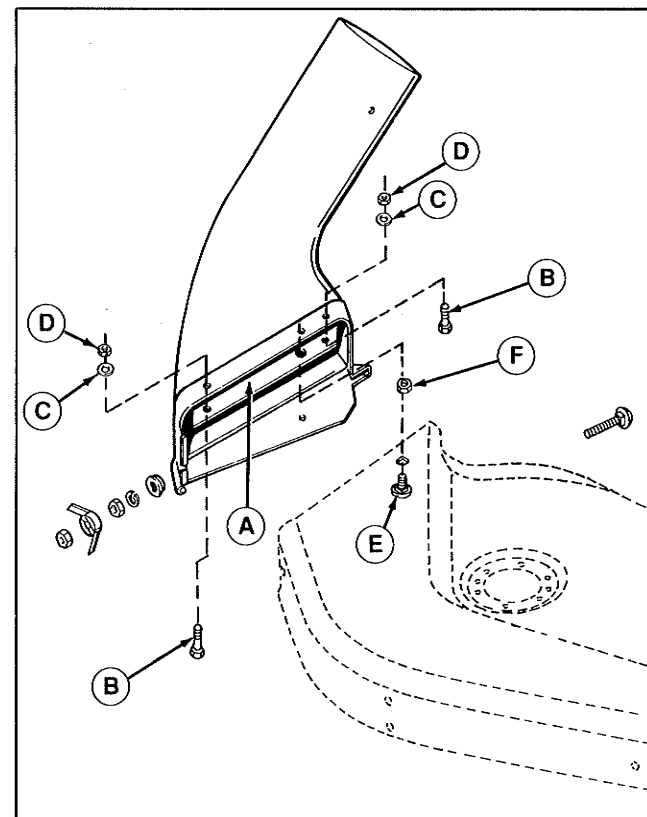

Figure 2.
4. Locate two holes at top of opening. In rear hole, insert 5/16-18 x 3/4 carriage bolt (E, figure 2) from bottom and install 5/16 jam nut (F, figure 2) on top of deck to hold carriage bolt in place.
5. Install steel plate (A, figure 2) on underside of adapter with two 10-24 x 5/8" flathead screws (B) and secure with flat washers (C) and 10-24 nyloc nuts (D).